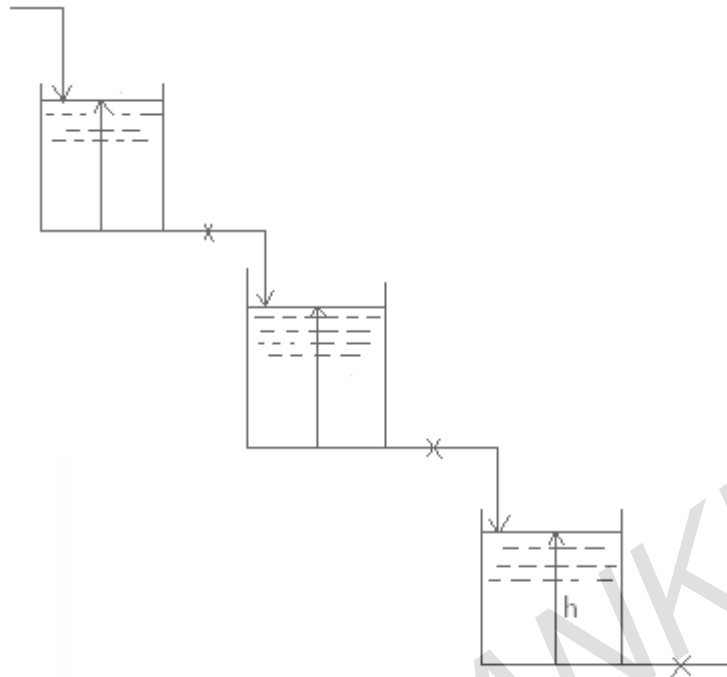

Figure 8:
5. Three identical tanks are operated in series in a non-interacting fashion as shown in the figure 8. For each tank,  $R = 1$ ,  $\tau = 1$ . If the deviation in flow rate to the first tank is an impulse function of magnitude 2, determine: